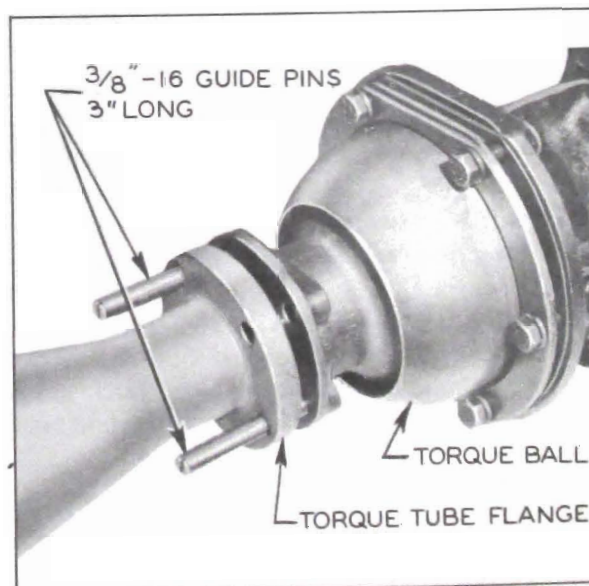

Figure 6-2—Removing Torque Tube from Torque Ball
6. Loosen torque ball retainer bolts so ball is free. Remove two opposite torque tube flange bolts, replacing them with two 3" guide pins. Remove other flange bolts. See Figure 6-2.